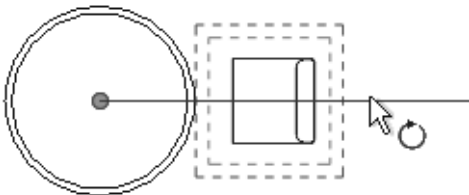

Figure 2–39
4. Drag (Center of Rotation) or use **Place** to move the center of rotation to the appropriate location, as shown in Figure 2–39.